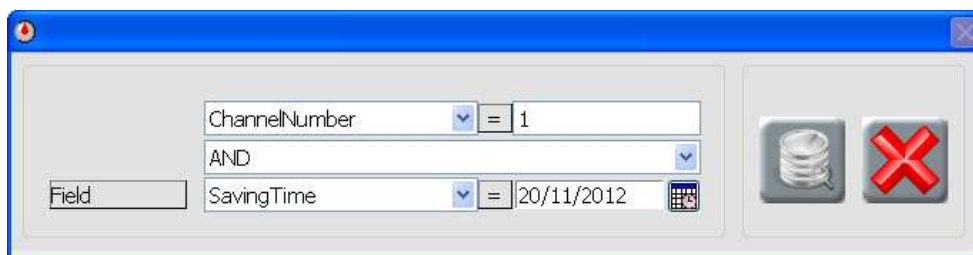

Fig. 6-24
5. In the search window (Fig. 6-24), there are several different ways to search:
- If you want to search for tests that match two different criteria, select 'AND' from the middle drop-down list and then select a second criterion (see Fig. 6-24).